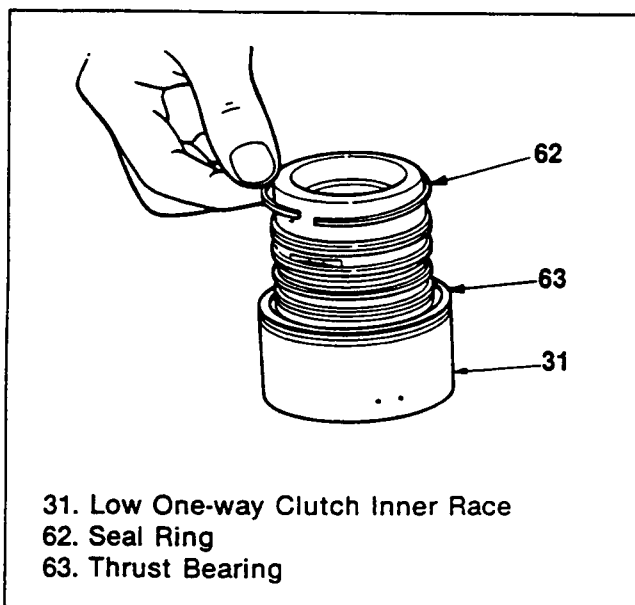

Figure 229. Low One-way Clutch Inner Race Seal Ring and Thrust Bearing Installation
Low One-way Clutch and Inner Race (Figures 229, 230, 231 and 232)
1. Apply Vaseline to the low one-way clutch, inner race and thrust bearing and attach them in the designated position (figure 229).